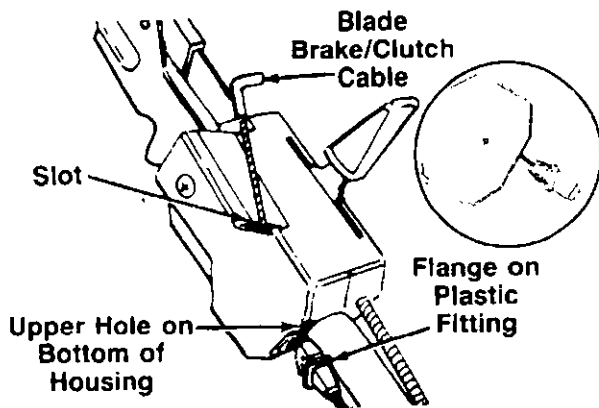

FIGURE 3.
1. Route the blade brake/clutch cable to the outside of the catcher panel and height adjustment lever, and under the lower handle. Place end of cable into the upper hole on the bottom of the control housing, and through the slot on the side of the housing as shown. The angle of the plastic flange must be positioned downward as shown in figure 3. Be careful not to bend or kink the cable at any time.